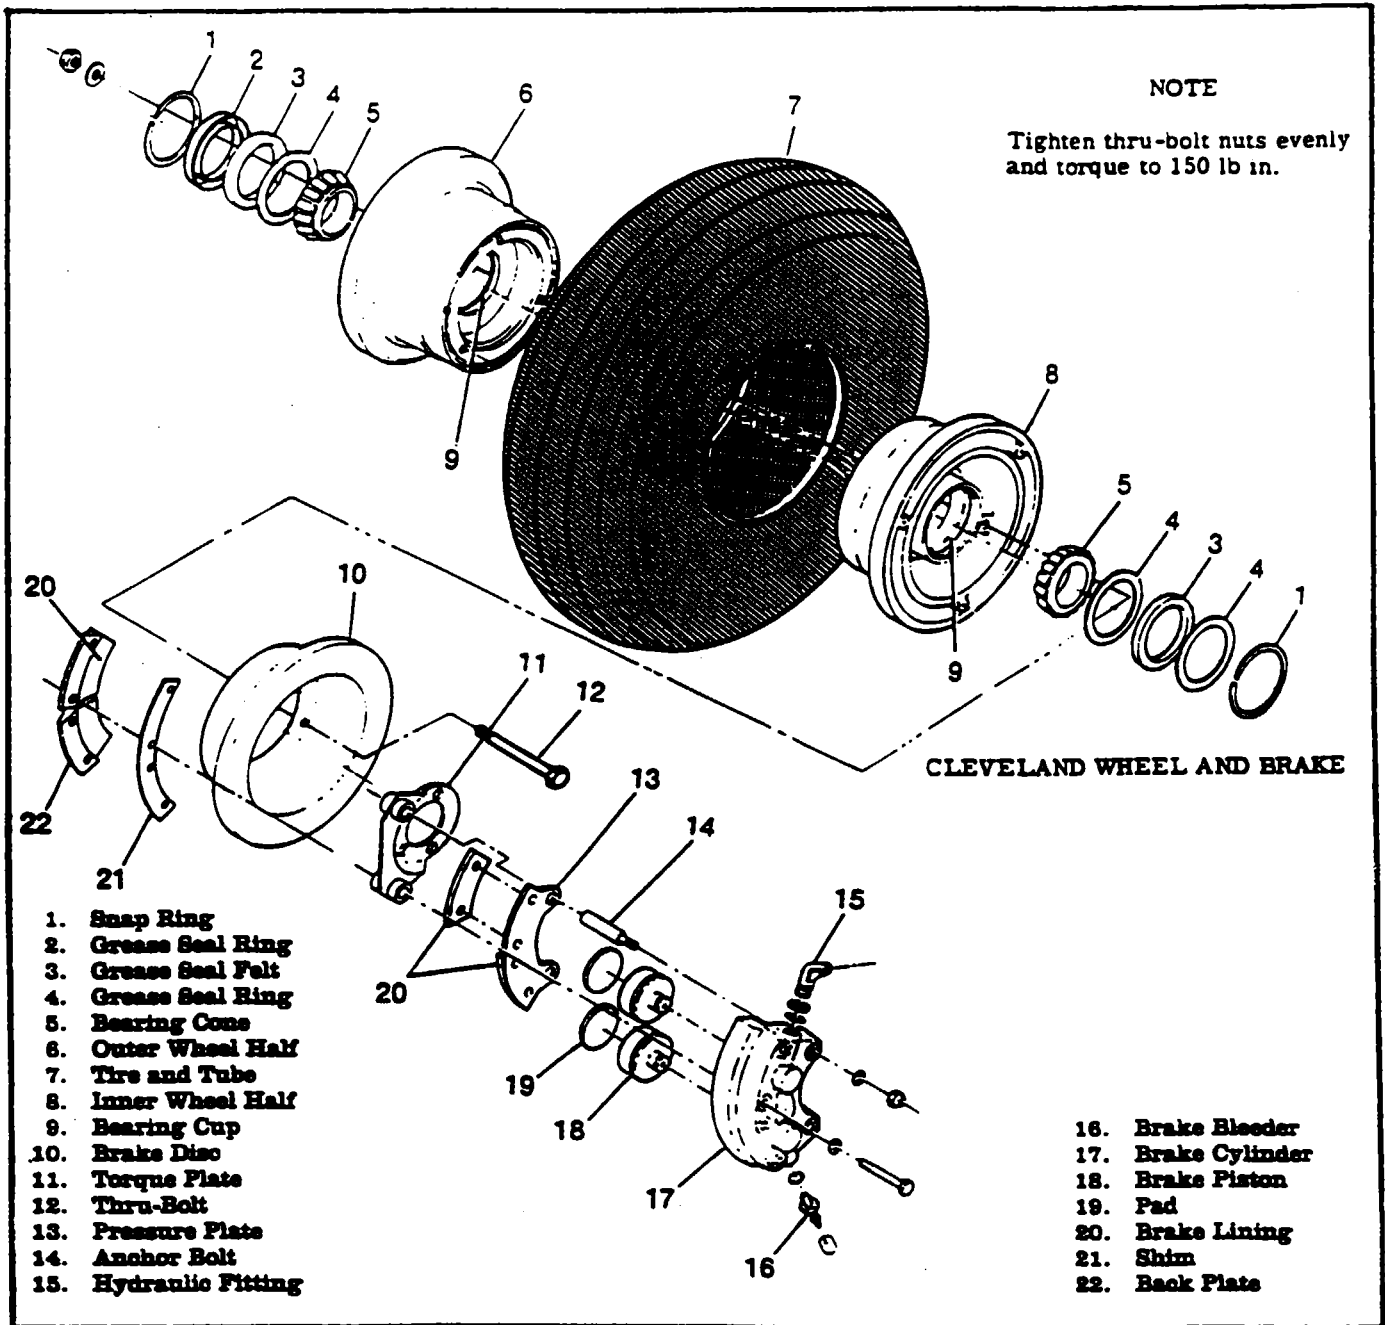

Figure 5-12. Main Landing Gear Wheel, Tire and Brake Assembly
**5-47. REMOVAL OF MAIN WHEEL AND TIRE ASSEMBLY.** (Refer to figure 5-12.)
**5-48. DISASSEMBLY OF MAIN WHEEL AND TIRE ASSEMBLY.** (Refer to figure 5-12.)
## 5-49. INSPECTION AND REPAIR OF MAIN WHEEL AND TIRE ASSEMBLY. (Refer to figure 5-12.)
## 5-50. REASSEMBLY OF MAIN WHEEL AND TIRE ASSEMBLY. (Refer to figure 5-12.)